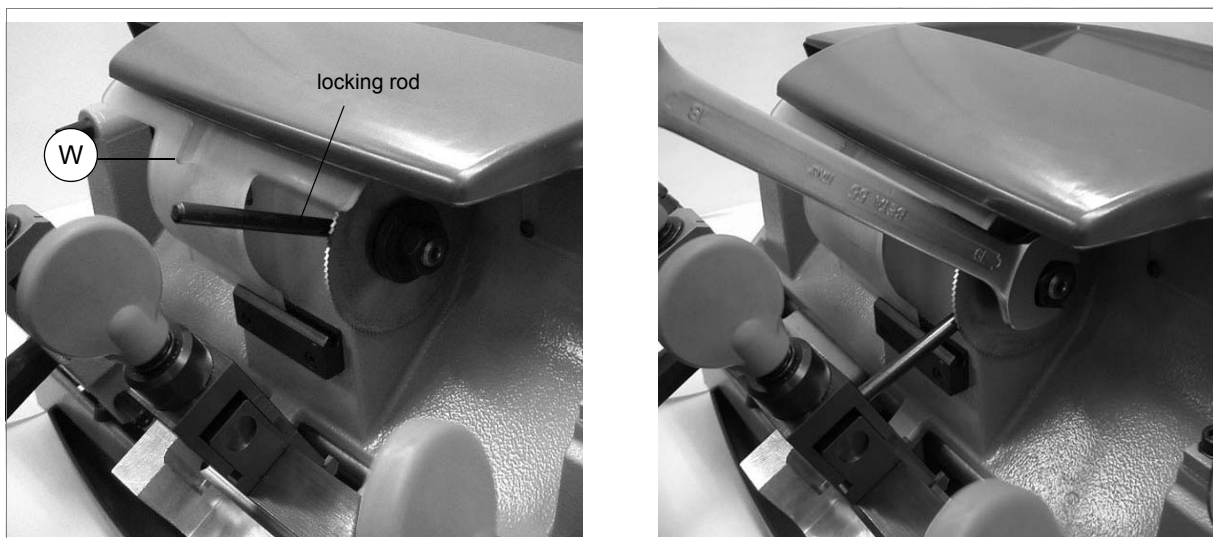

Fig. 62
- 1) Move the shield (W) to operate on the cutting tool to replace.
- 2) Slot the locking rod (standard) into the hole of the cutting tool shaft (fig. 62).